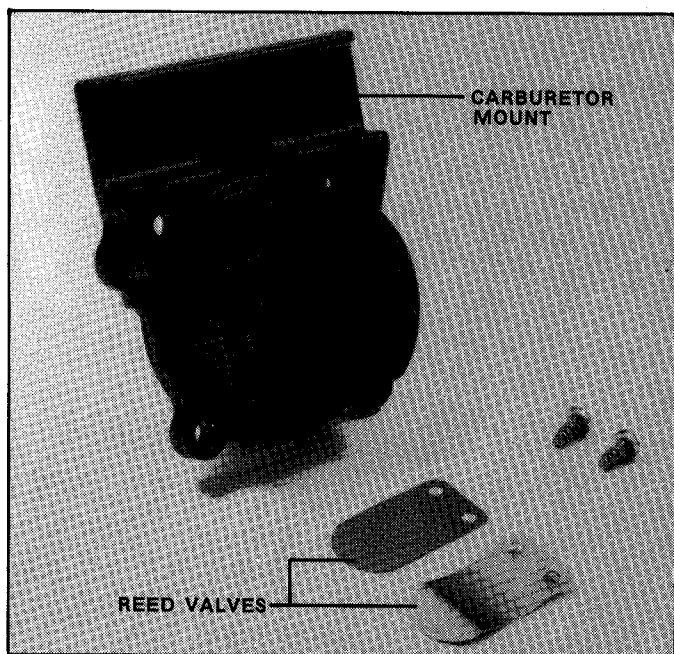

FIGURE 3.2
3.2 To disassemble the reed assembly from the carburetor mount remove the two screws in the forward end of the mount. Notice for re-assembly the arrangement of the outside backup plate bowed out and the inside reed plate bowed inward against the carburetor mount. See Figure 3.2.